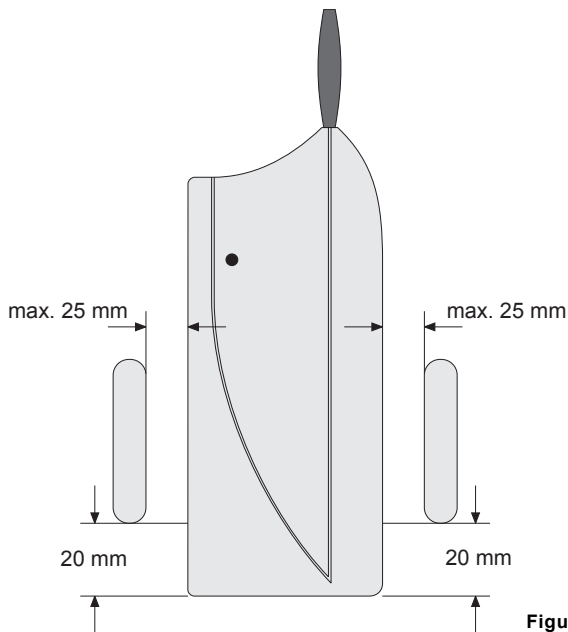

Figure 1
- As a rule, the magnet is mounted on the moving part (window, door panel, picture, for example) and the door/window detector 'FAZ-TF' is attached to the static part (for example, window frame, door frame or wall). Please refer to figure 1 on page 8 for the correct distance between magnet to door/window detector.
- If you use the supplied magnet, attach it using the enclosed double-sided tape (please note the recommended distances, see figure 1 on page 8).